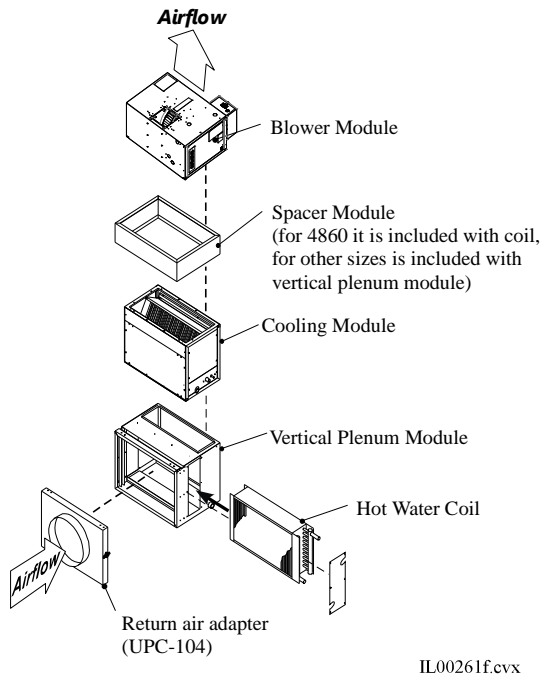

Figure 5. Vertical Installation
For M-Series vertical upflow arrangements where the air enters the bottom of the unit, use the vertical plenum (MV) module. Coil installation is identical to the MH installation instructions and shown in Figure 5. Detailed specifications for the MV unit are available in Bulletin 20-20.5.